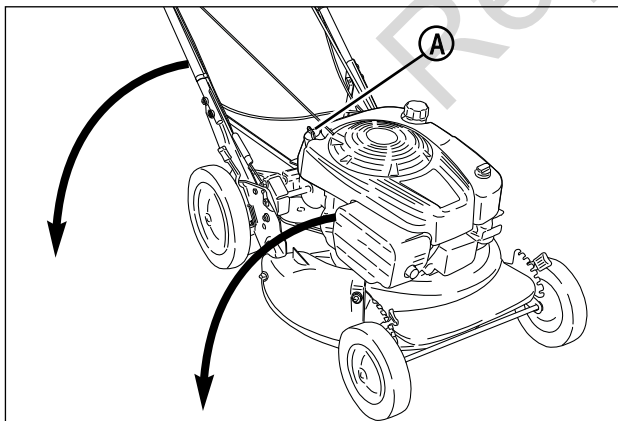

Figure 14: Draining the engine oil
2. For the simplest/cleanest oil change, simply turn the mower on its side to drain the oil, as shown. Drain the oil through the dipstick tube (A, Figure 14) into a container. Allow sufficient time for all the oil to drain.